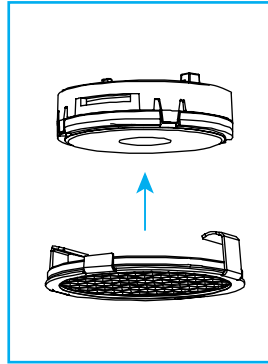

Fig.47
C. To install honeycomb louver, raise up and clip onto optic *"Fig.47"*.